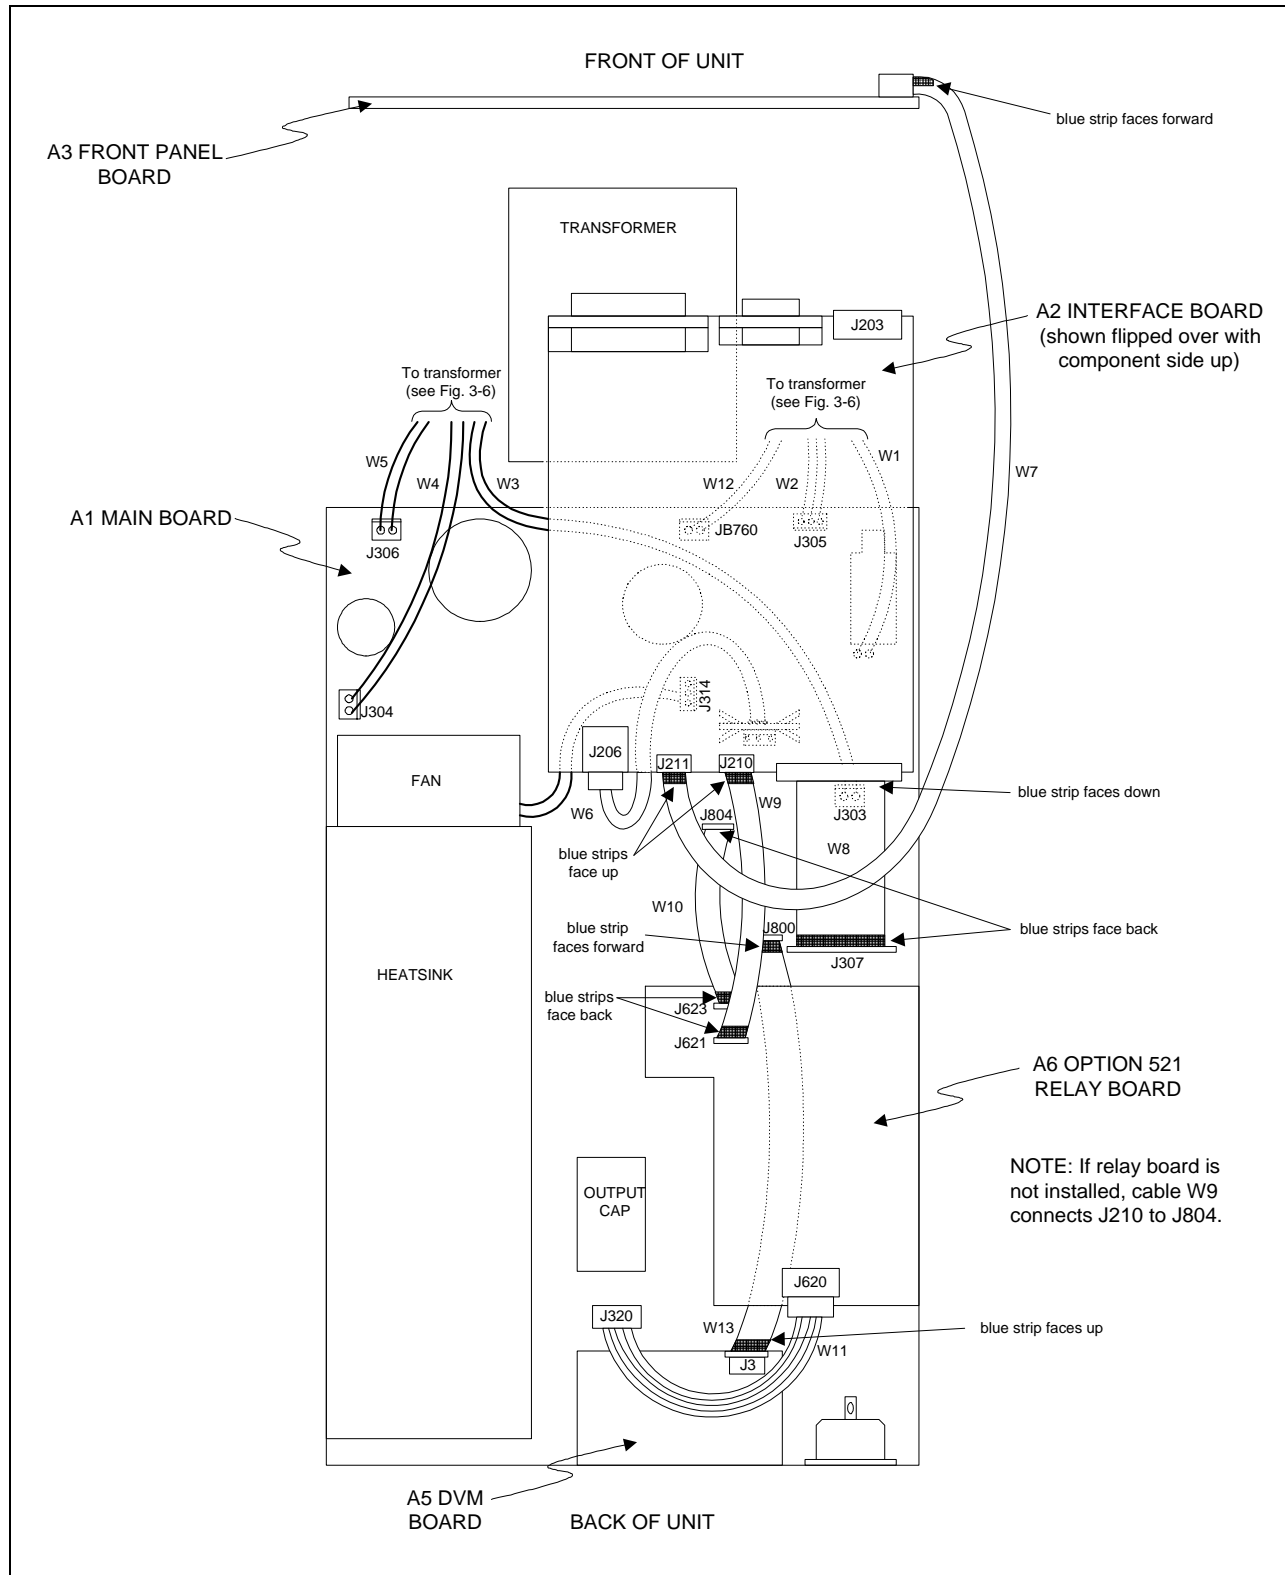

**Figure 3-3. Component Location**
Figure 3-3 shows the location of the major components of the unit. Note that not all boards are included with every model. Figure 3-4 shows the location of the cables that interconnect all of the boards. This figure shows only the boards, not the chassis of the unit.
- c. Unplug the ribbon cables. Note the position of the blue conductive side for reinstallation as shown in figure 3-3. Release the cable by pulling out the end tabs as shown by the arrows in figure 3-5.